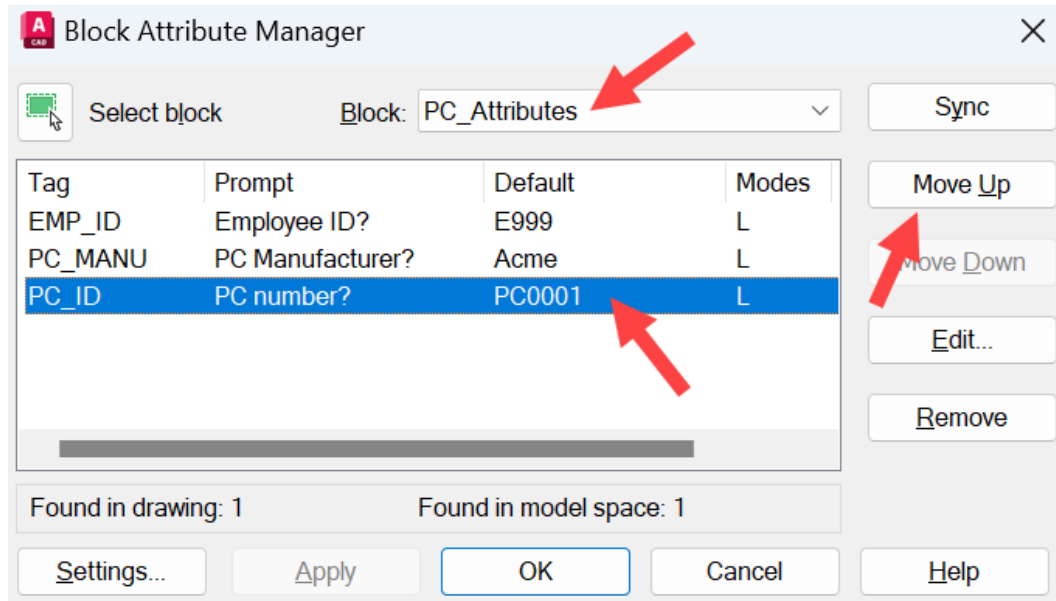

Figure 10.22: Block Attribute Manager with the block attributes displayed
4. You will be returned to the dialog box, and you can now see the attributes of the PC\_Attributes block displayed, as shown in *Figure 10.22*.
Note the order of the attributes in *Figure 10.22*. They are as follows: **EMP\_ID**, **PC\_MANU**, and **PC\_ID**. This is how they display in the **Edit Attributes** dialog box. However, they display as **PC\_ID**, **PC\_MANU**, and **EMP\_ID** in the drawing after the block is placed. You are going to re-arrange them using **Block Attribute Manager**.